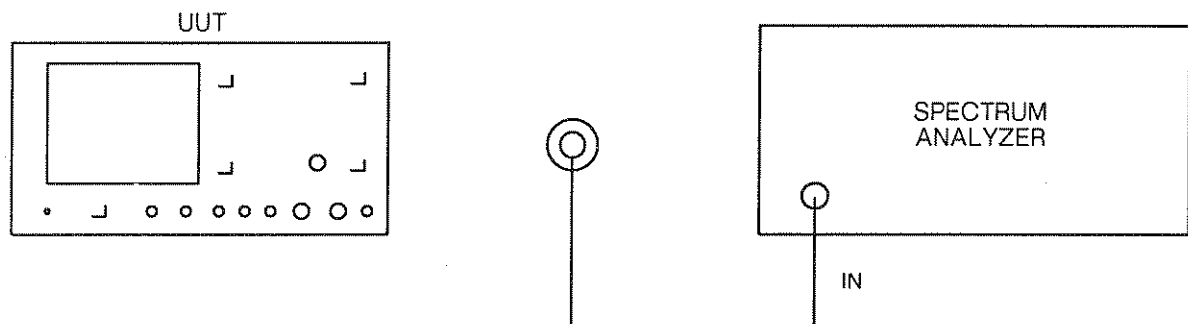

Fig. 5-24 Test equipment connections for RF generator RF leakage
- (1) Connect the equipment as shown in Fig. 5-24, with the 50Ω load connected to the BNC output socket.